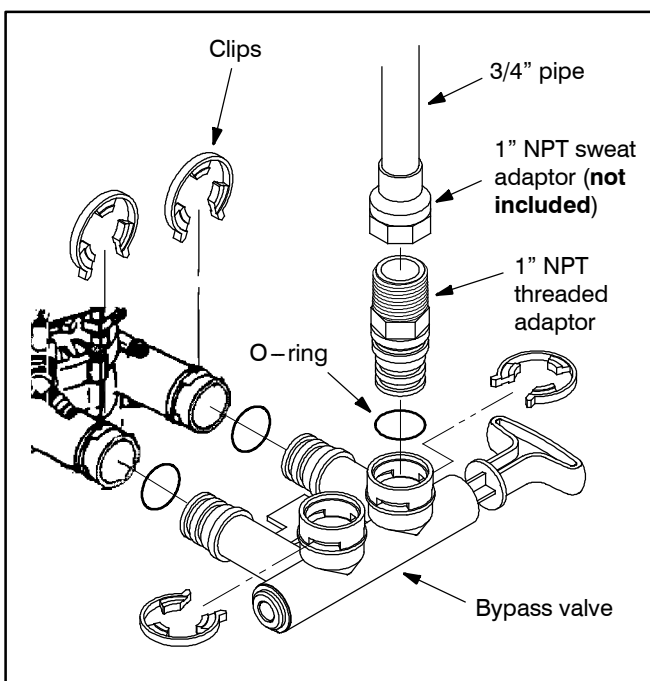

Figure 1
2. Disconnect plumbing by unclipping plastic adaptors from bypass valve. **Figure 1.**
3. Remove plastic adaptors from plumbing lines. **Figure 1.**
7. Remove clips holding bypass valve and remove from back of softener valve. **Figure 1.**
8. Replace o-rings on bypass valve with new. Use silicone grease or Vaseline if necessary. **Figure 1.**
9. Place bypass valve back into softener valve and secure with clips. **Figure 1.**
10. Connect plumbing lines to bypass valve. Use thread sealing tape on threads of 1" NPT threaded adaptors. **Figure 1.**